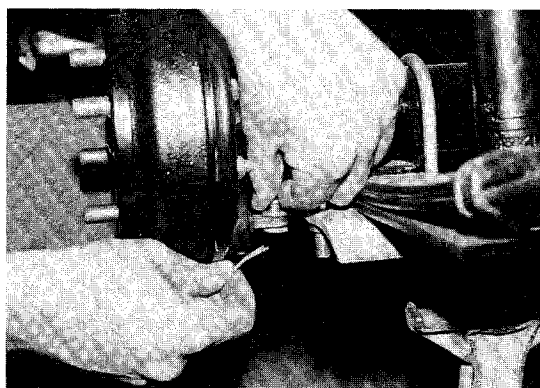

Figure 11-8
3. Remove cotter pins, brake cable clevis pins, cable retaining clips and disconnect brake cables (Figure 11-8).